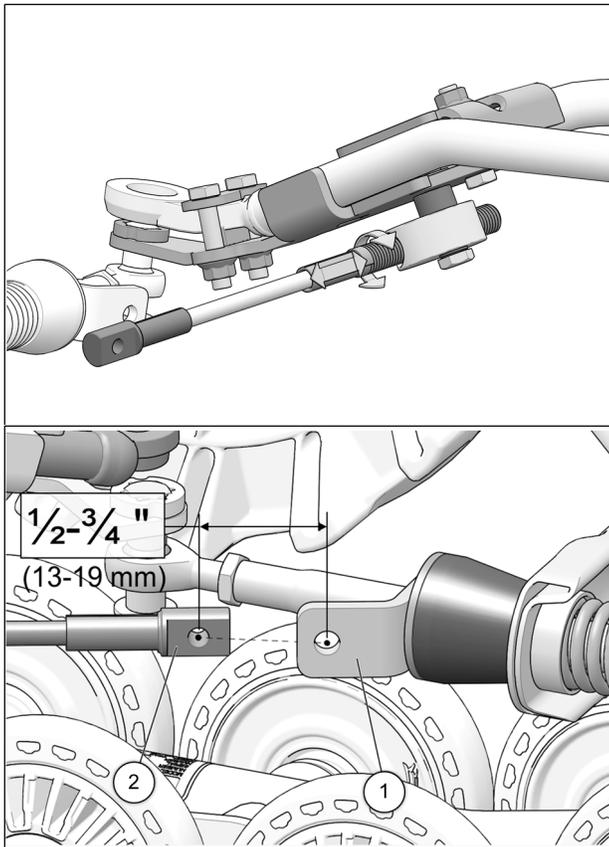

Fig. 17
12. Turn the vehicle's handle bars to its maximum point of travel on the left. While maintaining pressure on the handle bars, turn threaded rod to adjust length of cable so that the cable end hole (1) is located 13 to 19 mm [ $\frac{1}{2}$  to  $\frac{3}{4}$  in.] short of the mounting hole on the support plate (2). See Fig. 17